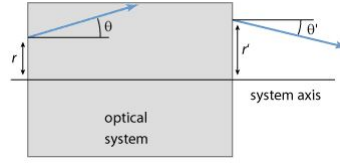

Figure 43: Rays tracing method
Where  $r_0, \theta_0$  are initial position of the object and image would have coordinates  $r_1, \theta_0$  after passing through the optical elements. Where A,B,C and D are dependent on the lens types and material. In the figure 43, you can see the coordinate system for rays. Here are some standard examples, (1) Thin lens with focal length  $f$ ,